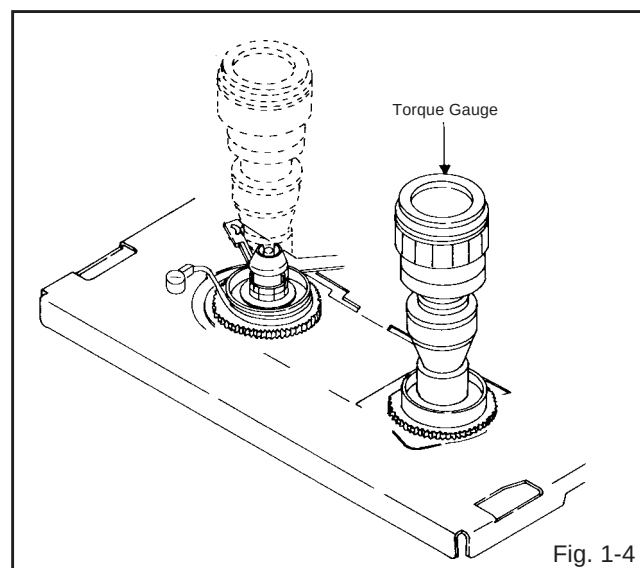

Fig. 1-4
1. Set torque gauge (**JG002G**) on take-up reel disk, and place unit in FAST FORWARD mode. (Refer to Fig. 1-4)
2. Set torque gauge (**JG002G**) on supply reel disk, and place the unit in REWIND mode. (Refer to Fig 1-4).
(Take-Up Reel Brake) (Refer to Fig. 1-4)
(Supply Reel Brake) (Refer to Fig. 1-4)